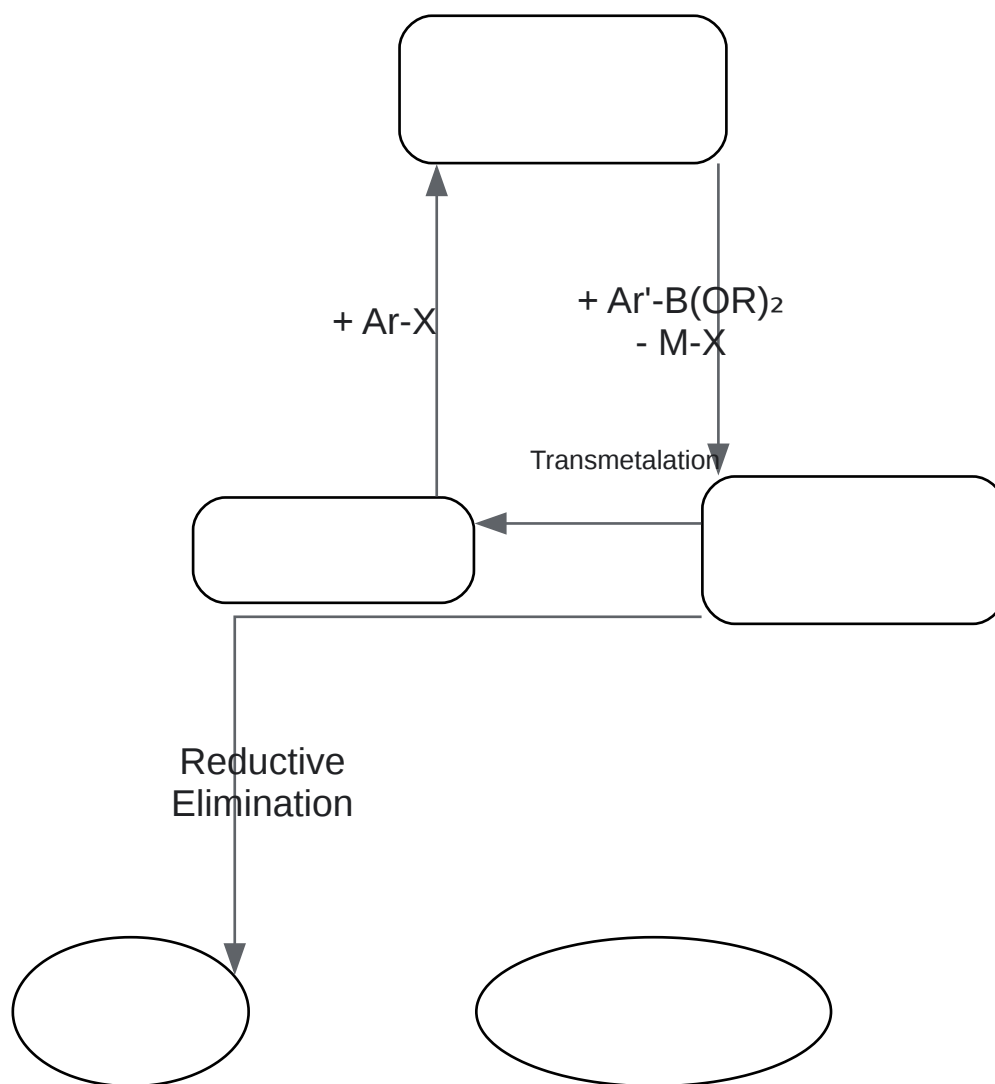

Fig 1. General Pd(0)/Pd(II) Catalytic Cycle for Suzuki Coupling.
Caption: Fig 1. General Pd(0)/Pd(II) Catalytic Cycle for Suzuki Coupling.